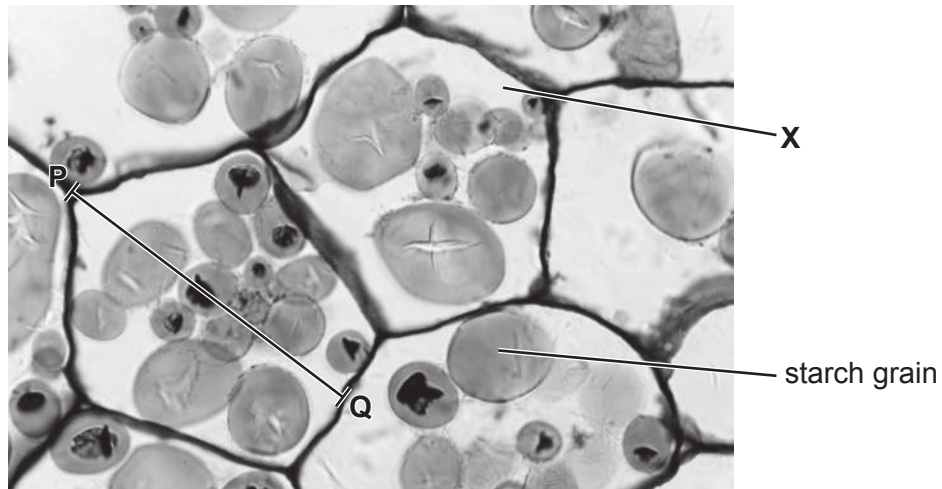

Fig. 2.1
(c) Fig. 2.1 is a photomicrograph showing cells from a potato.
- (ii) Measure the length of line **PQ** on Fig. 2.1. Include the unit.